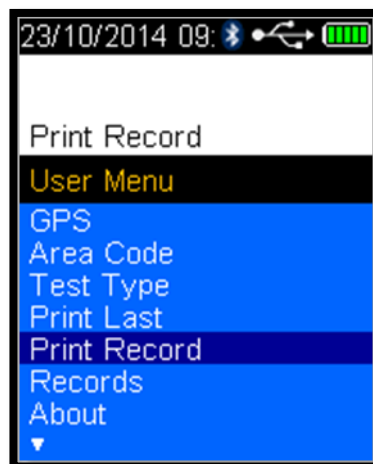

Figure 97 Print Record Displayed
- Press the down button and scroll to Print Record (refer Figure 97).